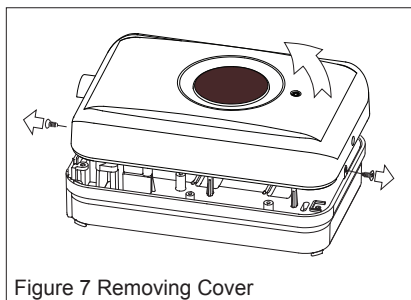

Figure 7 Removing Cover
- 6.3 Unscrew the retaining screws and lift the cover from the back plate - see Figure 7.